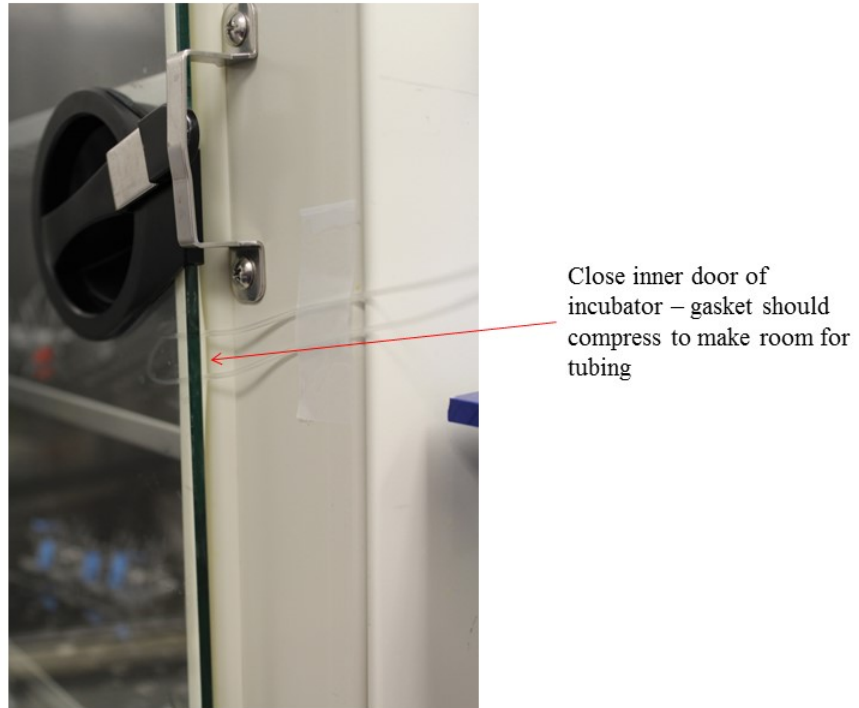

Figure 4. Close the door of the tissue culture incubator on the tubing. The tubing should be caught between the chamber gasket and the door of the incubator.
- a. The gasket between the door of the incubator and the chamber will prevent the tubing from being crushed and will allow liquid to flow (**Figure 4**).